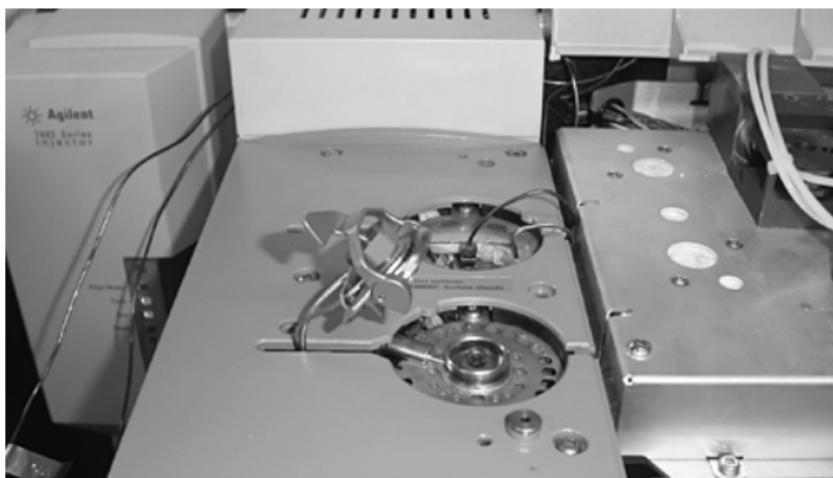

Figure 4 Positioning the lever arm assembly
- 7 Place the FlipTop's lever arm assembly onto the inlet gas weldment as shown in Figure 4. Make sure the spacer ring is pointing downwards.